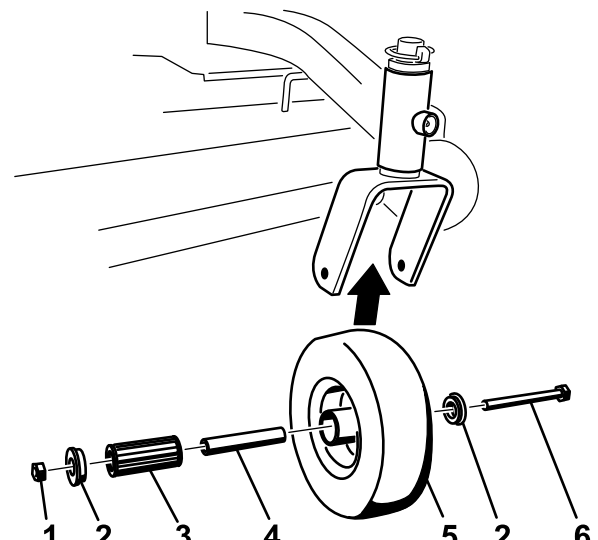

Figure 43
1. Remove the locknut and wheel bolt holding the caster wheel to the caster fork (Figure 43).
2. Remove one bushing, then pull the spanner bushing and roller bearing out of the wheel hub (Figure 43).
3. Remove the other bushing from the wheel hub and clean any grease and dirt from the wheel hub (Figure 43).
4. Inspect the roller bearing, bushings, spanner bushing and inside of the wheel hub for wear. Replace any defective or worn parts (Figure 43).
5. To assemble, place one bushing into the wheel hub. Grease the roller bearing and spanner bushing and slide them into the wheel hub. Place the second bushing into the wheel hub (Figure 43).
6. Install the caster wheel into the caster fork and secure with the wheel bolt and locknut. Tighten the locknut until the spanner bushing bottoms against the inside of the caster forks (Figure 43).